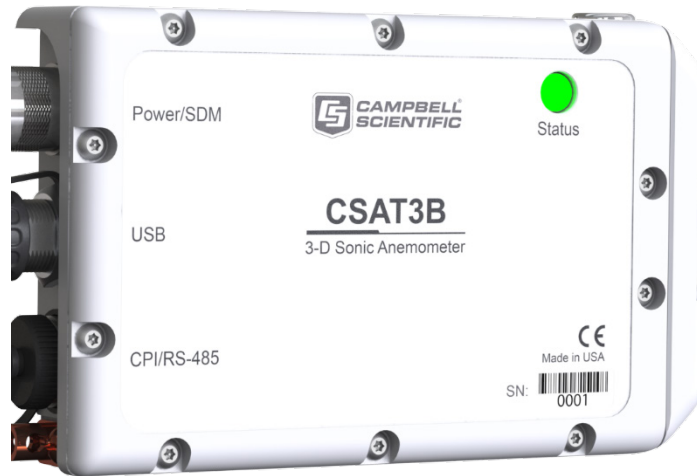

FIGURE 4-8. Lit status light on CSAT3B block
4. Verify that measurements are being made by ensuring the green **Status** light (FIGURE 4-8) on the CSAT3B block is blinking, indicating that measurements are being made and recorded in the data logger without diagnostic error conditions.